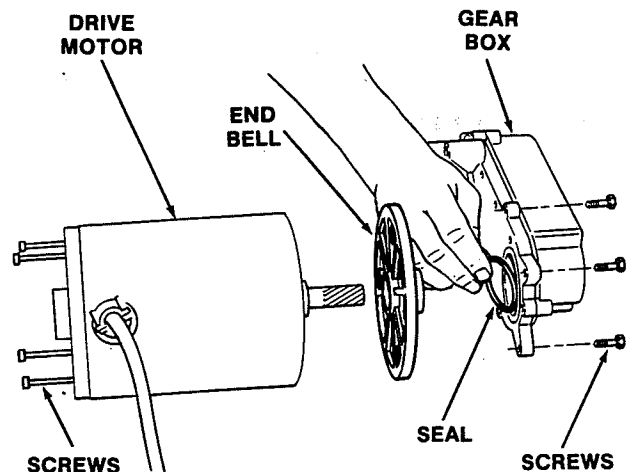

Figure 62. Gear Box and Seal
1. Remove the screws attaching the gear box to the drive motor and remove the drive motor. (See Fig. 62).